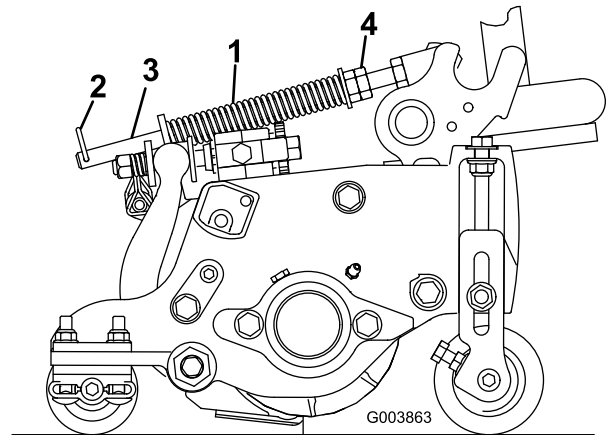

Figure 59
The turf-compensation spring (Figure 59) transfers the weight from the front roller to the rear roller. This helps to reduce a wave pattern in the turf, also known as marcelling or bobbing.
1. Make sure that the hairpin is installed in the rear hole in the spring rod (Figure 59).
2. Tighten the hex nuts on the front end of the spring rod until the compressed length of the spring is 15.9 cm (6.25 inches); refer to Figure 59.